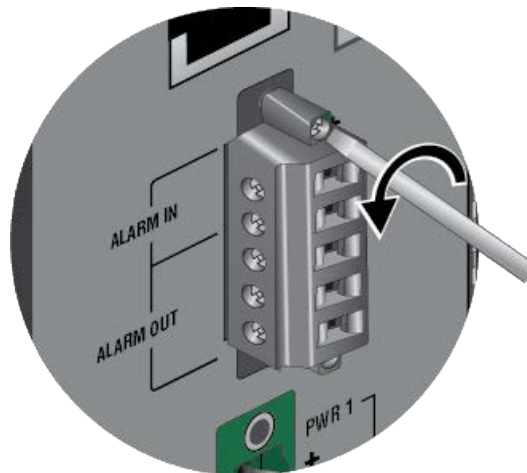

Figure 47. Loosening the Captive Screws on the ALARM IN / ALARM OUT Plug
4. Loosen the two captive screws securing the ALARM IN / ALARM OUT plug to the switch. Refer to Figure 47.